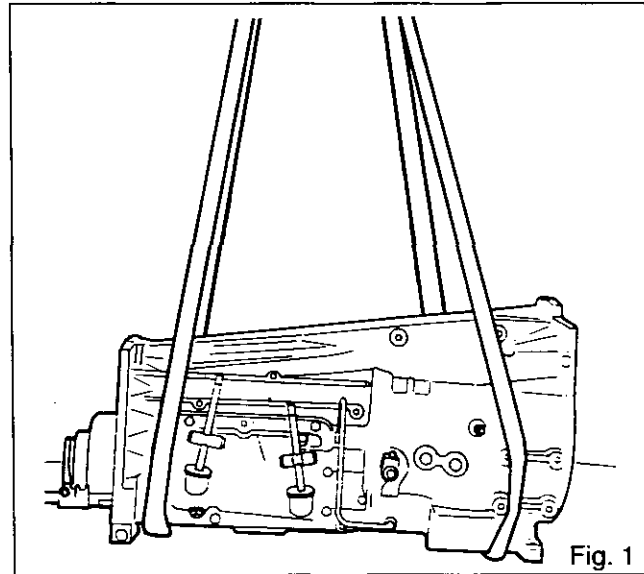

Fig. 1
2. Separate the gearbox from the engine ; see Section 3 A01. Carry out procedures 11 and 12 after suspending the gearbox in slings (Fig.1).